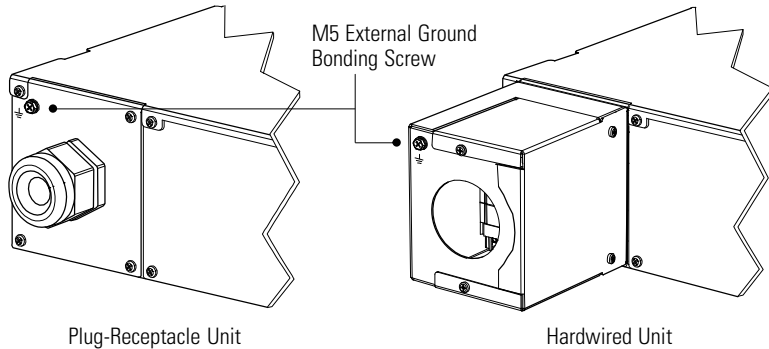

Figure 6. Ground Bonding Screw
1. Verify that the RPM-3U/3Ui is properly installed in the rack or wallmount brackets and that each circuit breaker on the RPM-3U/3Ui front panel is in the OFF (O) position. The Power indicator should be off.
2. If your rack has conductors for grounding or bonding of ungrounded metal parts, connect the ground cable (not included) to the ground bonding screw on the RPM-3U/3Ui rear panel. Figure 6 shows the location of the ground bonding screw.